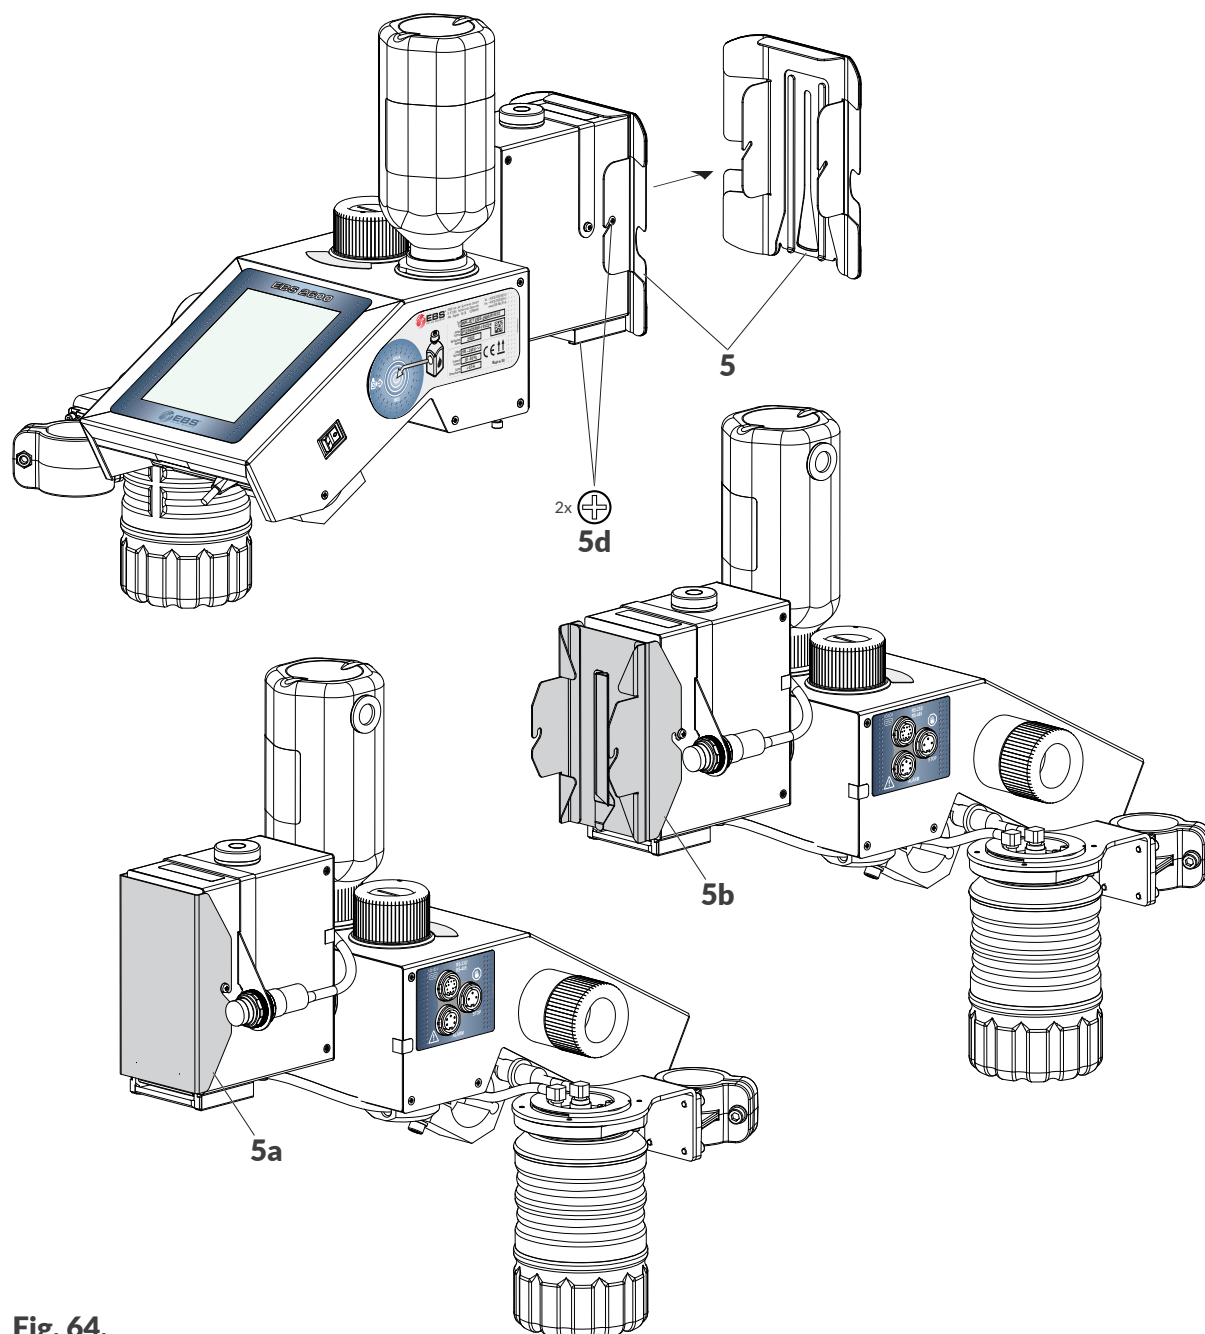

Fig. 64.
To protect the nozzles and the nozzle plate and also to avoid ink leaks from the printhead while the printer is stored/transported, it is recommended that a sealing cover be used. The sealing cover is available in two variants (see Fig. 64):
- Use the cross head screwdriver to loosen two screws **5d** (see Fig. 64 on page 156) that fasten slide **5**.